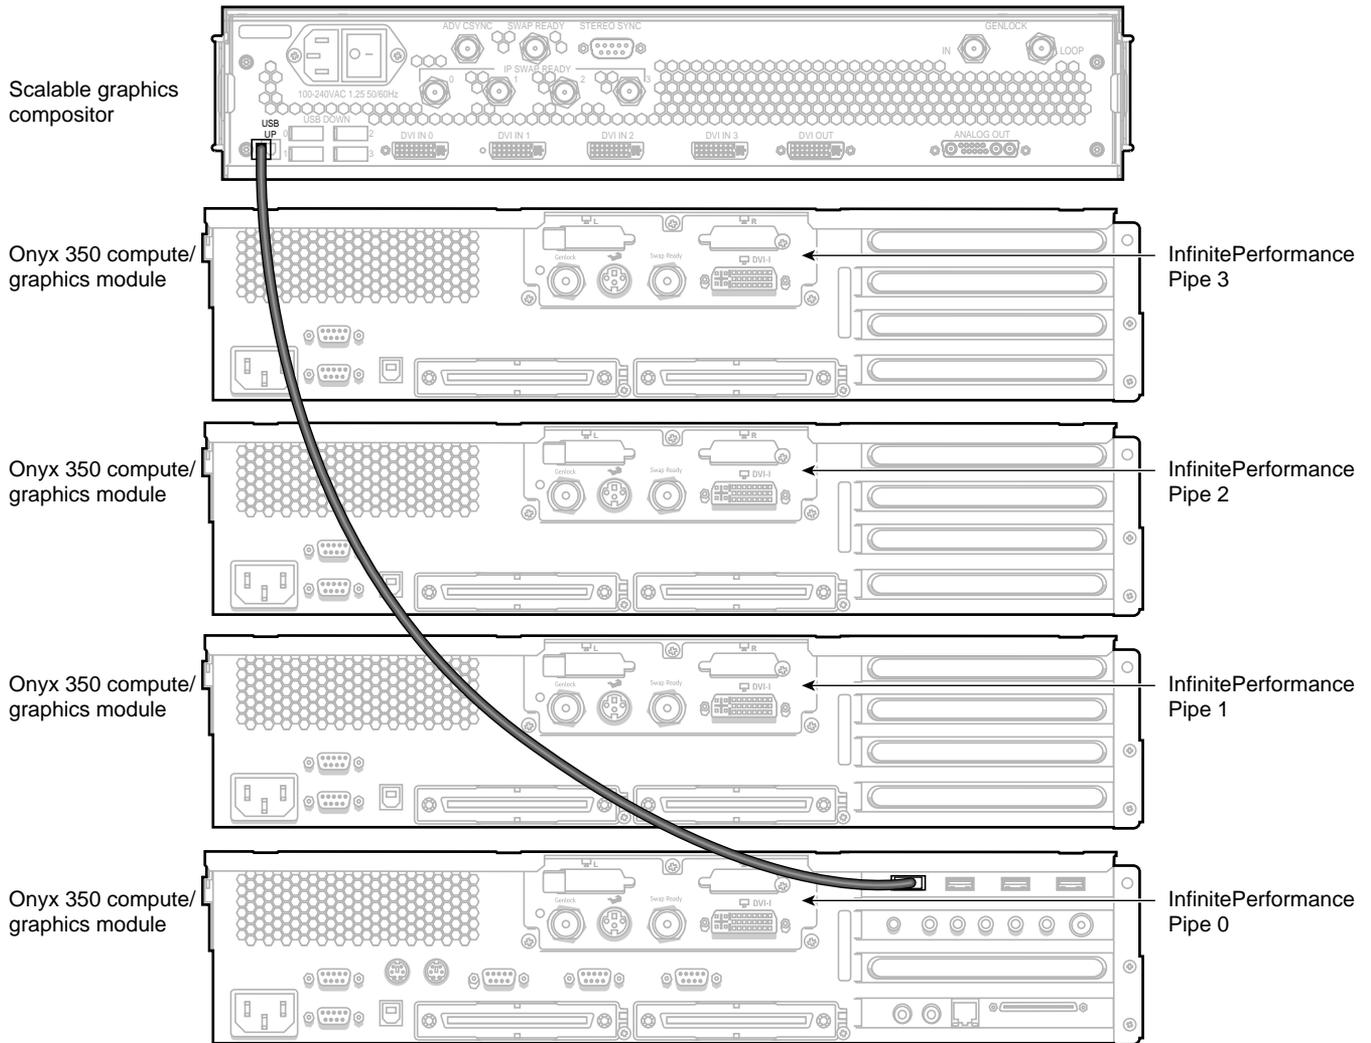

Figure 2-4 Connecting the USB Connectors
3. Using a USB cable, connect the USB UP port on the compositor to a USB DOWN port on the Onyx 350 graphics system which contains pipe 0 (as shown in Figure 2-4):
Note: You may connect additional compositors to the compositor shown in Figure 2-4 with USB cables by connecting the UP port(s) of the additional compositor(s) to the DOWN port(s) of the compositor shown.